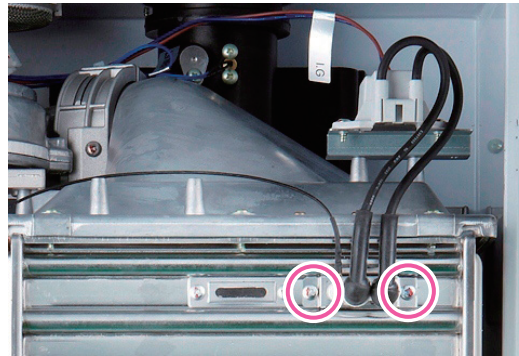

Figure 7
- Remove the 2 screws from the flame rod as shown in Figure 7 below.
- Place the new flame rod back onto the burner assembly and secure it by using the 2 screws from Figure 7.